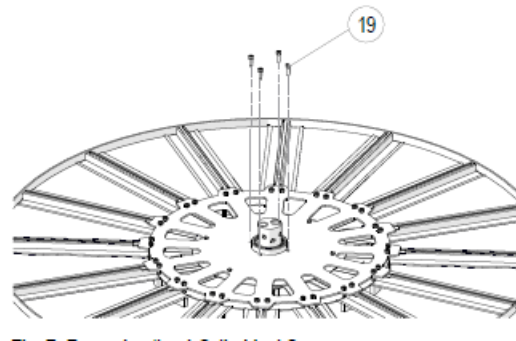

Fig. 7: Removing the 4 Cylindrical Screws
2. Tighten the 4 central cylindrical screws (14 Nm) (see Fig. 7).